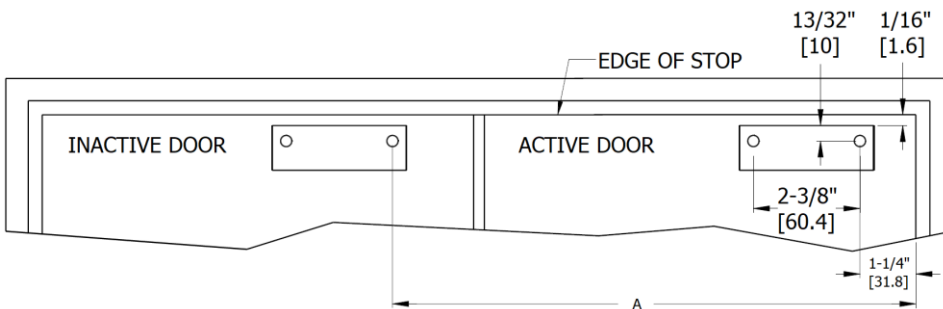

Figure 1
- Using Figure 1, mark the Door Coordinator Strike mounting holes